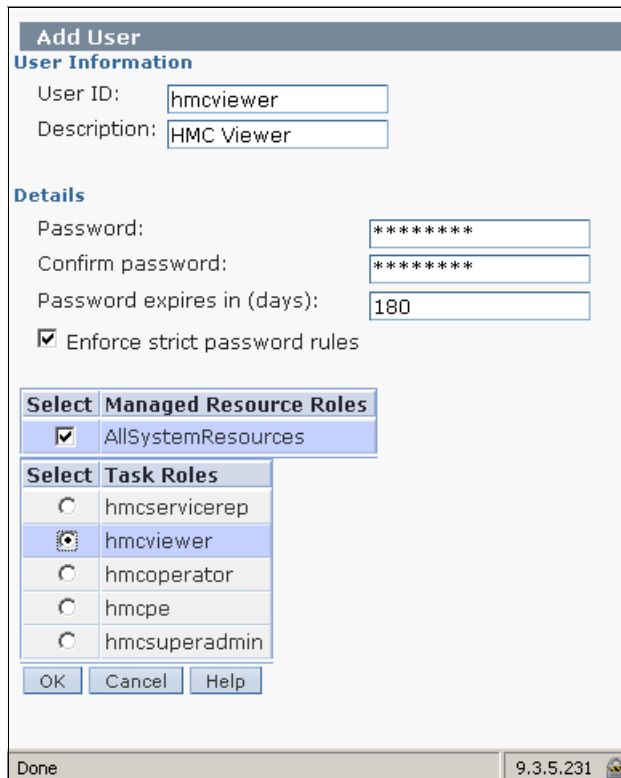

Figure 5-15 Add a new user with Viewer role using strict password rules
2. Insert the new user ID, a description of the user ID, the password for the new user ID, and re-enter the new password. Select **viewer** from Task Roles in order to create a new user with the Viewer role. You can select **Enforce strict password rules** to give the password expiration and type the number of the expiration day as shown in Figure 5-15. (This option sets the password to expire after the number of the days specified.)